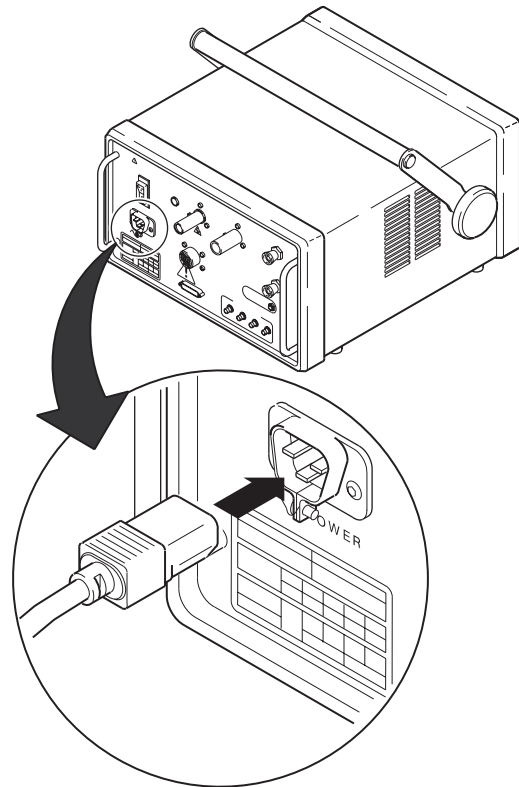

Figure 3 Insert the Power Cord Here
2. Insert the power cord into the polarized receptacle on the rear of the power supply. See Figure 3.